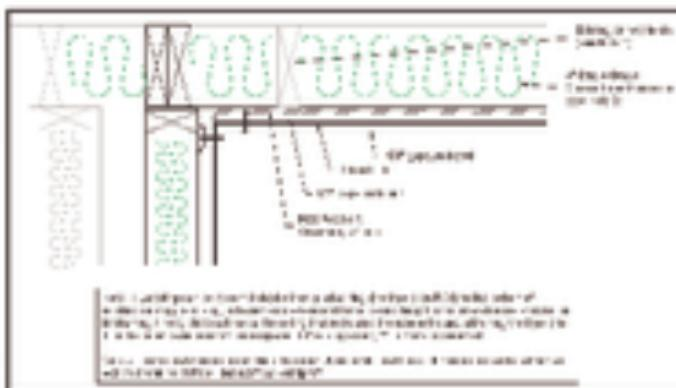

Figure 3.3a • Ceiling construction
The method for controlling structureborne sound that is passing through ceilings is much the same - see Figure 3.3a. Generally, we suggest layering SheetBlok and gypsum board either over the existing ceiling, preferably hung on **RCA Resilient Channel**, or as part of a lower, separated ceiling resting atop the new walls. If you are lucky enough to have vertical height to spare, drop down 3½" and frame another ceiling resting it only on top of your new walls (which, in turn, might be on top of your new floated floor). Insulate it with **Mineral Fiber** and cover it with two (2) layers of ½" gypsum board mounted on RC8. If you have an unfinished existing ceiling, insulate it with **Mineral Fiber**, cover the joists with two (2) layers of ½" gypsum board mounted on RC8 (you can use ½" gypsum board if you want, but ¾" has been verified to be better if space, time, funds and motivation permit) and then drop down 3½" and frame your new ceiling.